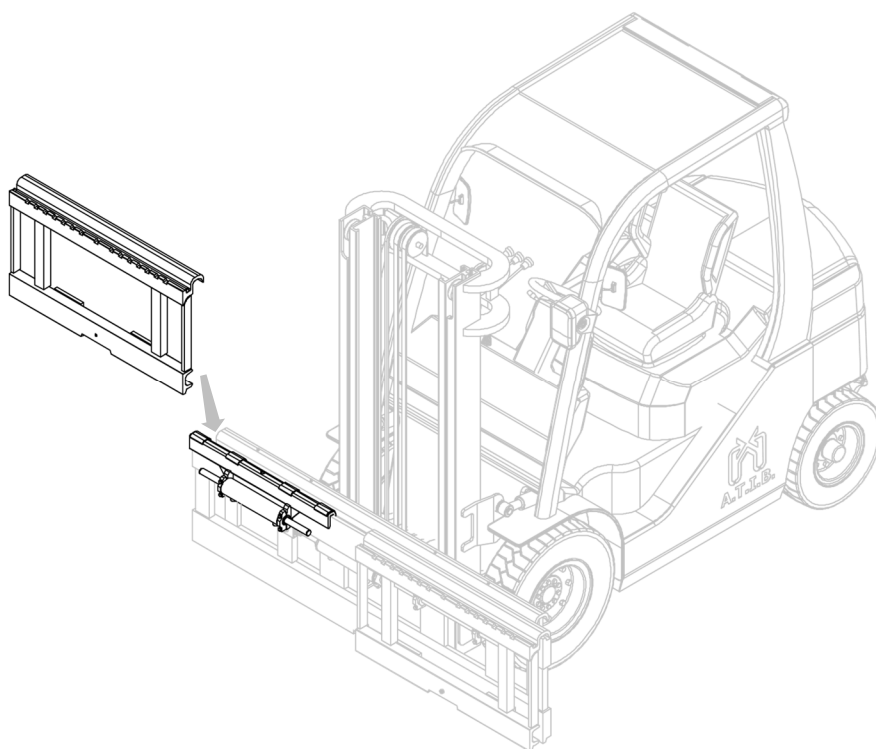

Figure 9
5. With an overhead crane or hoist of sufficient capacity, place the equipment on the double coupling, taking care to position it correctly (see *Figure 9*).